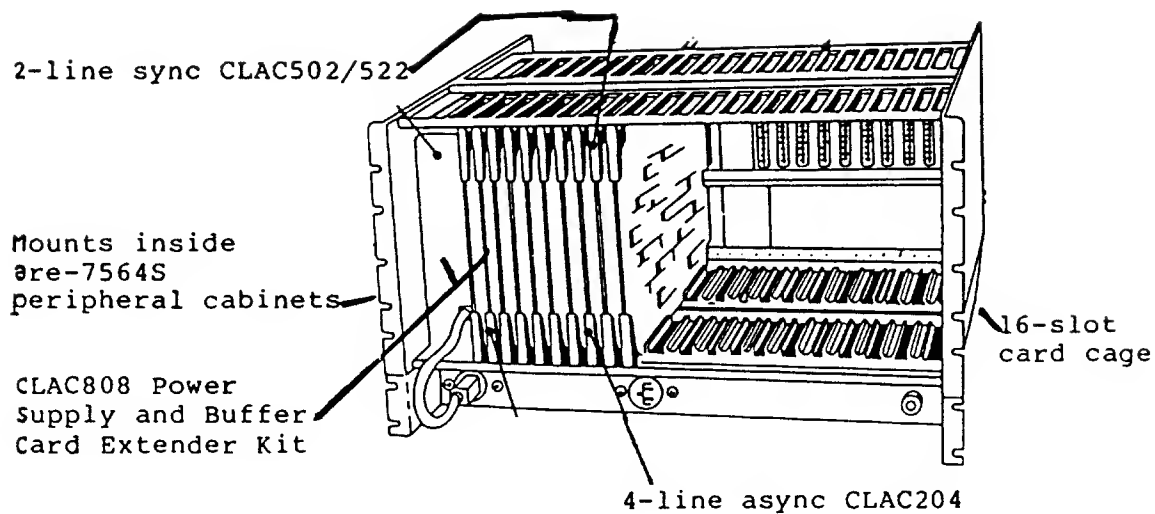

Figure 4-1b. ICS3 Model 5725 Card Cage and CLACs
5. The ICS3 5725 uses the same external cables as those created for the ICS2. Figure 4-1b illustrates the ICS3 Model 5725 card cage and CLACs.